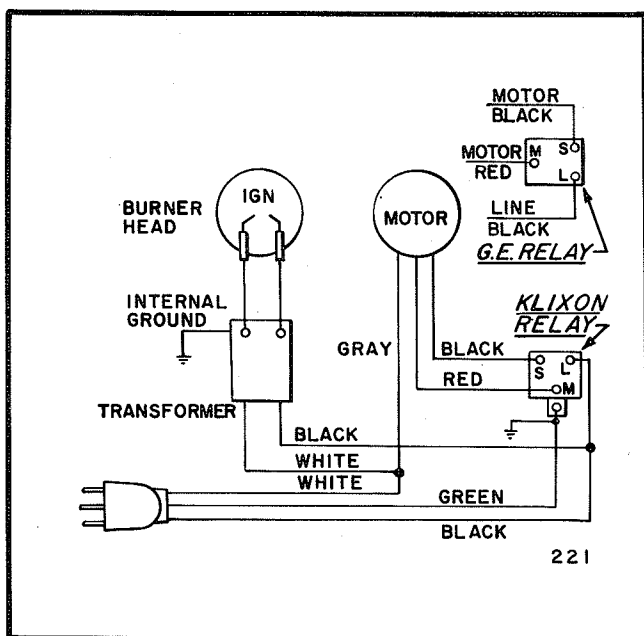

Figure 6. Wiring Diagram for 75,000 BTU Heater
4. Replace the housing, then install transformer and housing into the heater shell. Make wiring connections according to the Wiring Diagram, Figure 6 or 7.
2A. 75,000 BTU Heaters. These heaters have 1/8 horsepower motors and separate starting relays. (See the Wiring Diagram, Figure 6.)
c. If the motor starts, install a new relay, and reconnect the wiring according to the Wiring Diagram, Figure 6.